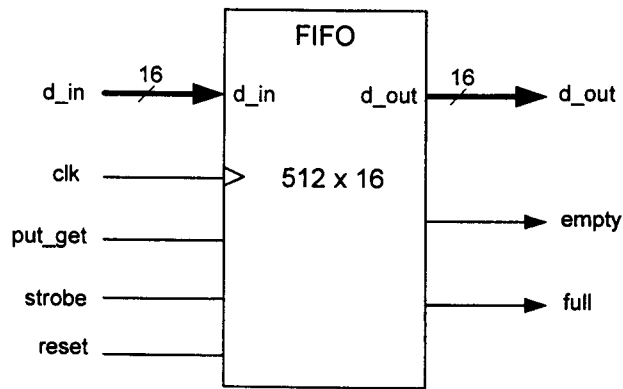

Figure 3.1
3. Figure 3.1 depicts a 512 x 16 bit synchronous first-in-first-out (FIFO) memory module that is implemented inside an Altera Flex10K FPGA device. All operations are synchronous to a system clock signal *clk*. On the rising edge of *clk*, input data *d\_in* is stored in the FIFO if the *put\_get* signal is high and output data is read out to *d\_out* if *put\_get* is low. Data words are read out in the same order that they are stored. If the number of data stored in the FIFO is 510 or higher, the signal *full* goes high. Similarly if the number of data stored is 2 or less, the signal *empty* goes high. The signal *reset* initializes the FIFO to an empty state. The FIFO is enabled by the *strobe* signal which goes high for one cycle when there is either a read or a write operation. You may assume that circuits external to the FIFO ensure that it never overflows or underflows.